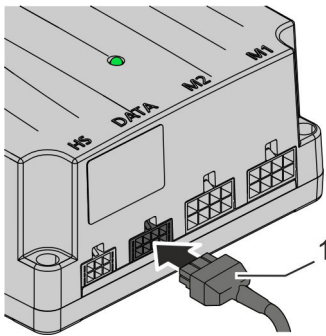

Fig. 25: Connecting the BUS cable (control)
1. ➤ Connect the BUS cable (Fig. 25/1) to the DATA interface on the control.